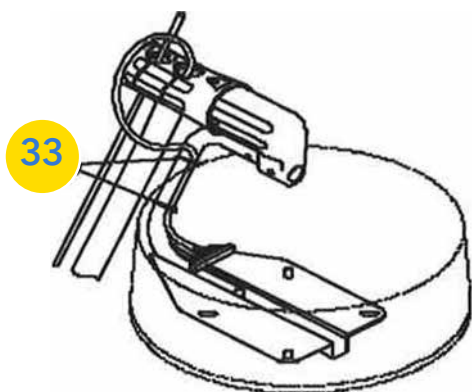

FIGURE 10
- ▶ At this point, follow the radar manufacturer's instructions. Connect the antenna cable to radar dome and then secure it to the Mounting Plate (22). NOTE: After the radar antenna dome has been secured to the Mounting Plate and Cradle Tube and the Mounting Plate and Screws (24) secured, the radar antenna dome cannot be removed, without dis-assembly, when configured in the forward mounted option.
- ▶ Feed any excess antenna cable down the inside of the Mounting Pole leaving a loop at the top, see (Figures 10 & 11). Use the cable ties (33) to attach the radar cable to the Cradle Tube (23). Insert the two small plugs (30) in the holes on either side of the Damper Assembly. Install the Large Plug (31) in the open end of the Cradle Tube.